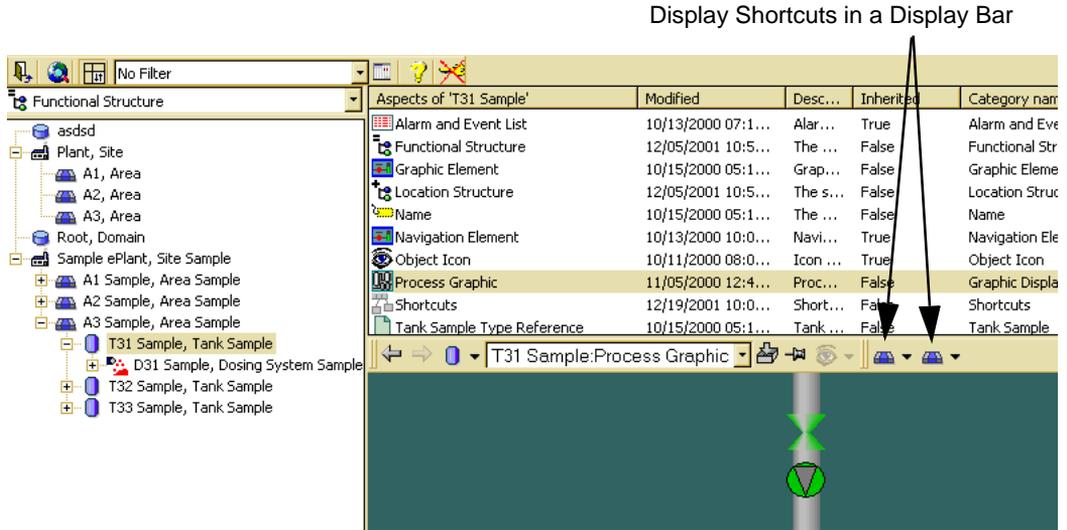

Figure 52. Display Bar Shortcuts
7. A Display Shortcut will be displayed in the Display Bar, to the right of the other tools. See Figure 52.